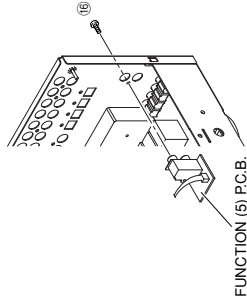

Fig. 7
8. Removal of FUNCTION (5) P.C.B. (B model)
- a. Remove screw (16). (Fig. 7)
- b. Remove the FUNCTION (5) P.C.B.. (Fig. 7)